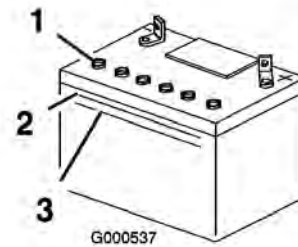

Figure 41
1. Look at the side of the battery. The electrolyte must be up to the **upper** line (Figure 41).
Do not allow the electrolyte to fall below the Lower line (Figure 41).
3. Remove the vent caps from the battery (Figure 41).
4. Slowly pour distilled water into each battery cell until the electrolyte level is up to the Upper line (Figure 41) on the battery case.
5. Wait five to ten minutes after filling the battery cells. Add distilled water, if necessary, until the electrolyte level is up to the Upper line (Figure 41) on the battery case.